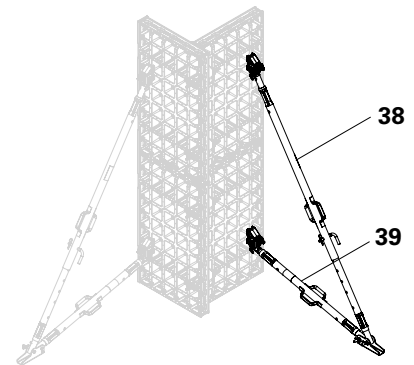

Fig. C1.07
7. Mount the push-pull prop and kicker brace on the brace connector. Mount the push-pull prop and kicker brace on the base plate and fix the base plate with anchor bolts. (Fig. C1.07)